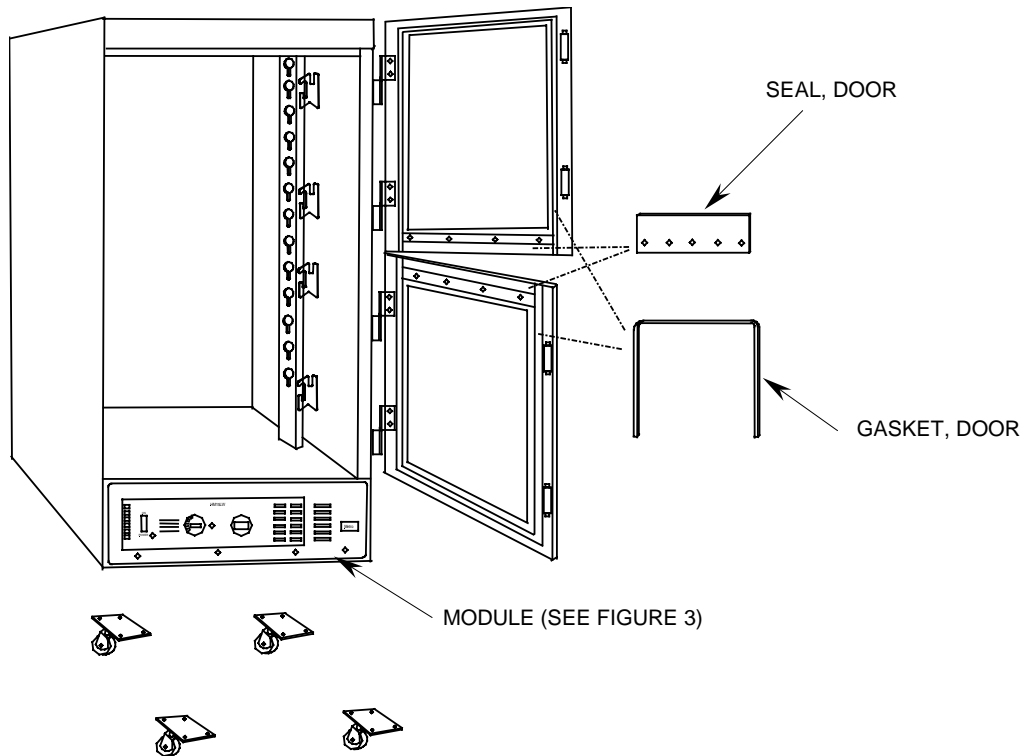

Figure 2. Mobile Warming Cabinet Maintenance.
**Door Gasket:** Refer to Figure 2. Starting at a corner, remove the old gasket from the door by pulling it out of the groove in the door frame. To install the replacement gasket, press the arrow-shaped edge of the new gasket into the groove. It may take up to eight hours depending on the ambient temperature for the gasket to seat properly.
**Door Seal:** Refer to Figure 2. Remove and retain the five door seal mounting screws and the door seal retaining strip. Install the new door seal using retained hardware.